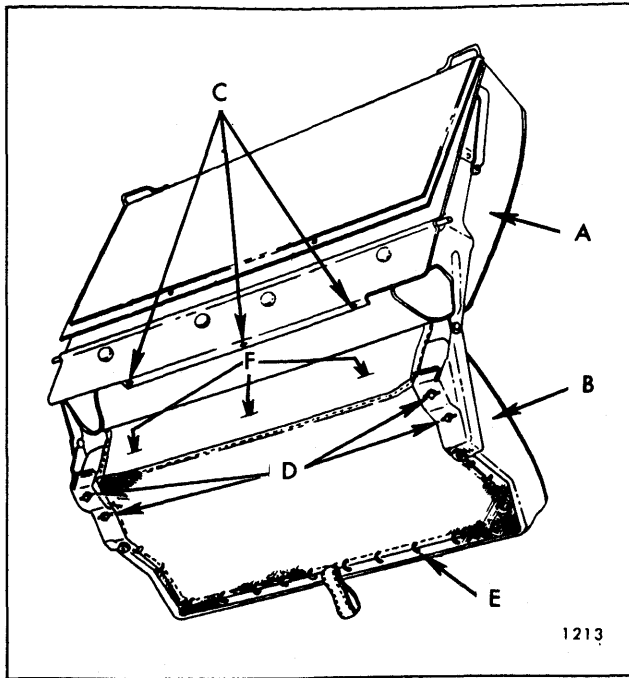

Fig. 10-76—Folding Third Seat Assembly
2. Remove hog rings securing seat back trim flap to bottom of seat cushion (Fig. 10-76).
frame (Fig. 10-76) and three screws securing rear edge of seat cushion trim to seat cushion frame; then, remove cushion trim assembly from cushion frame.
3. To remove seat back trim assembly remove seat back trim-to-seat back panel attaching screws (Fig. 10-76); then, lift trim assembly upward to disengage wire loops on seat back trim from slots in seat back panel and remove trim assembly.